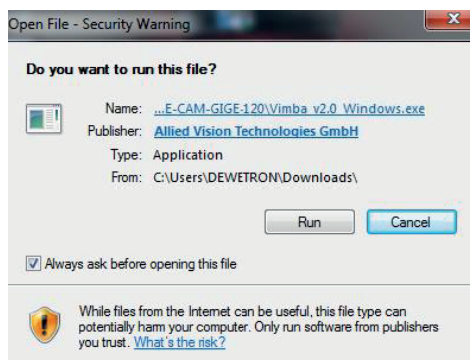

Fig. 1: Confirming the execution of the setup process
2. Start the installation setup process by confirming the execution (Fig. 1).